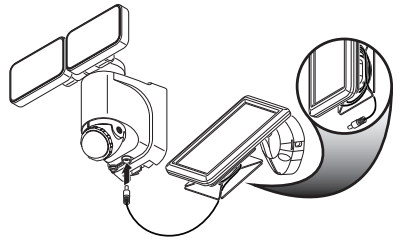

Figure 8
3. Carefully route the solar panel cable to the light fixture. Remove the rubber plug from the bottom of the light fixture and insert the end of the cable into the opening (see Figure 8). *Note:* Wrap any excess solar panel cable around the cord management system located on the rear of the solar panel. Leave enough loose cable to form a drip loop.